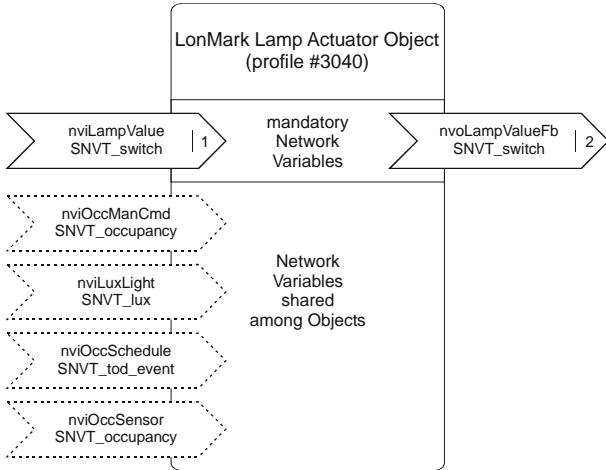

Fig. 4. Lamp Actuator Object
- quatre lamp actuator objects (#3040) (see Fig. 4)